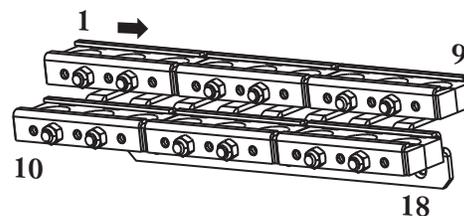

Figure 24
Step 3: Select appropriate cable strain-relief slot by referring to cable installation sequence in Figure 24.